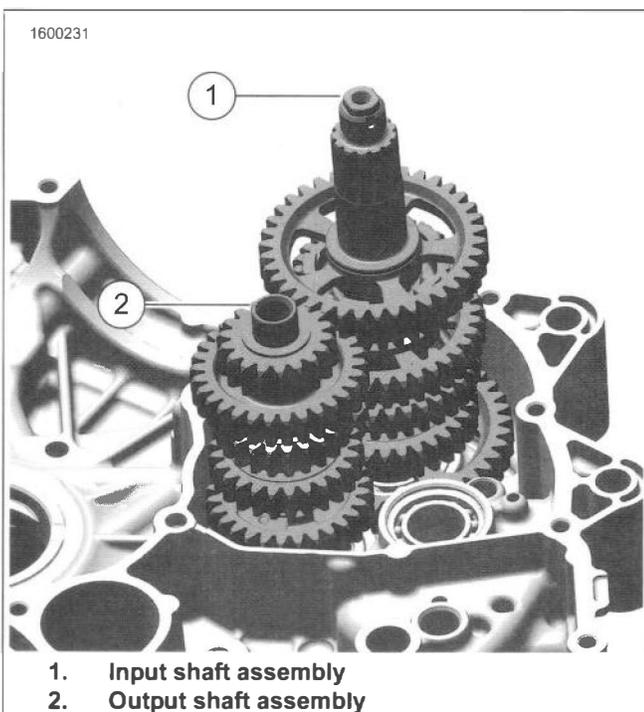

Figure 5-33. Gear Pack Assembly
1. See Figure 5-33. Remove gear pack assembly.
- a. Lift input shaft assembly (1) far enough to support the bottom gear.
- b. Lift output shaft assembly (2). Remove gear pack assembly.
1. See Figure 5-33. Install gear pack.
- a. Align input shaft assembly (1) up to the output shaft assembly (2) mesh gears.